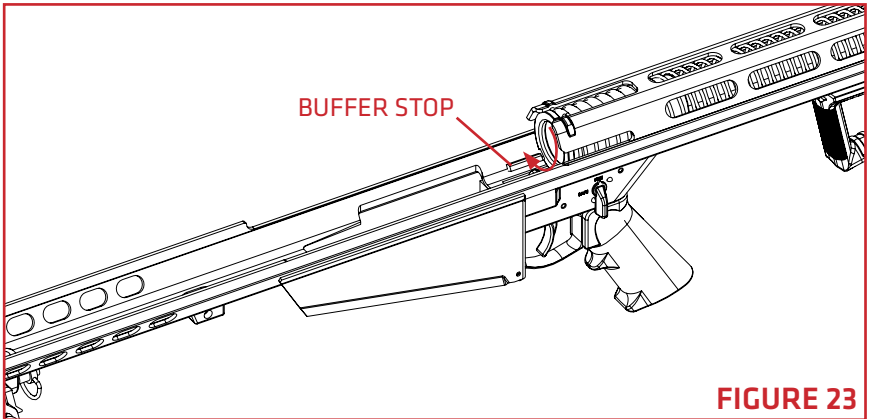

FIGURE 23
2. While maintaining constant control and pressure, rotate the buffer and spring to align the buffer notch with buffer stop on lower receiver (**FIGURE 23**).